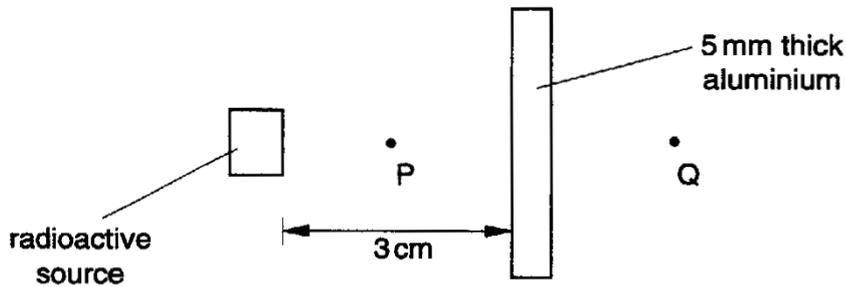

Fig. 2
- (b) The radium produced is also radioactive. Fig. 2 shows a laboratory experiment to test for the presence of the radioactive emissions from the thorium source, using a radiation detector.